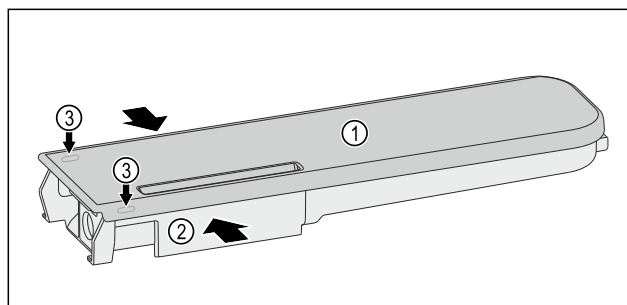

Fig. 159
- Push the water tanks Fig. 159 (2) together, leverage the cover Fig. 159 (1) carefully over the latching tabs Fig. 159 (3) and lift it up.
- Move the cover Fig. 159 (1) slightly forwards and back, and remove to the top.